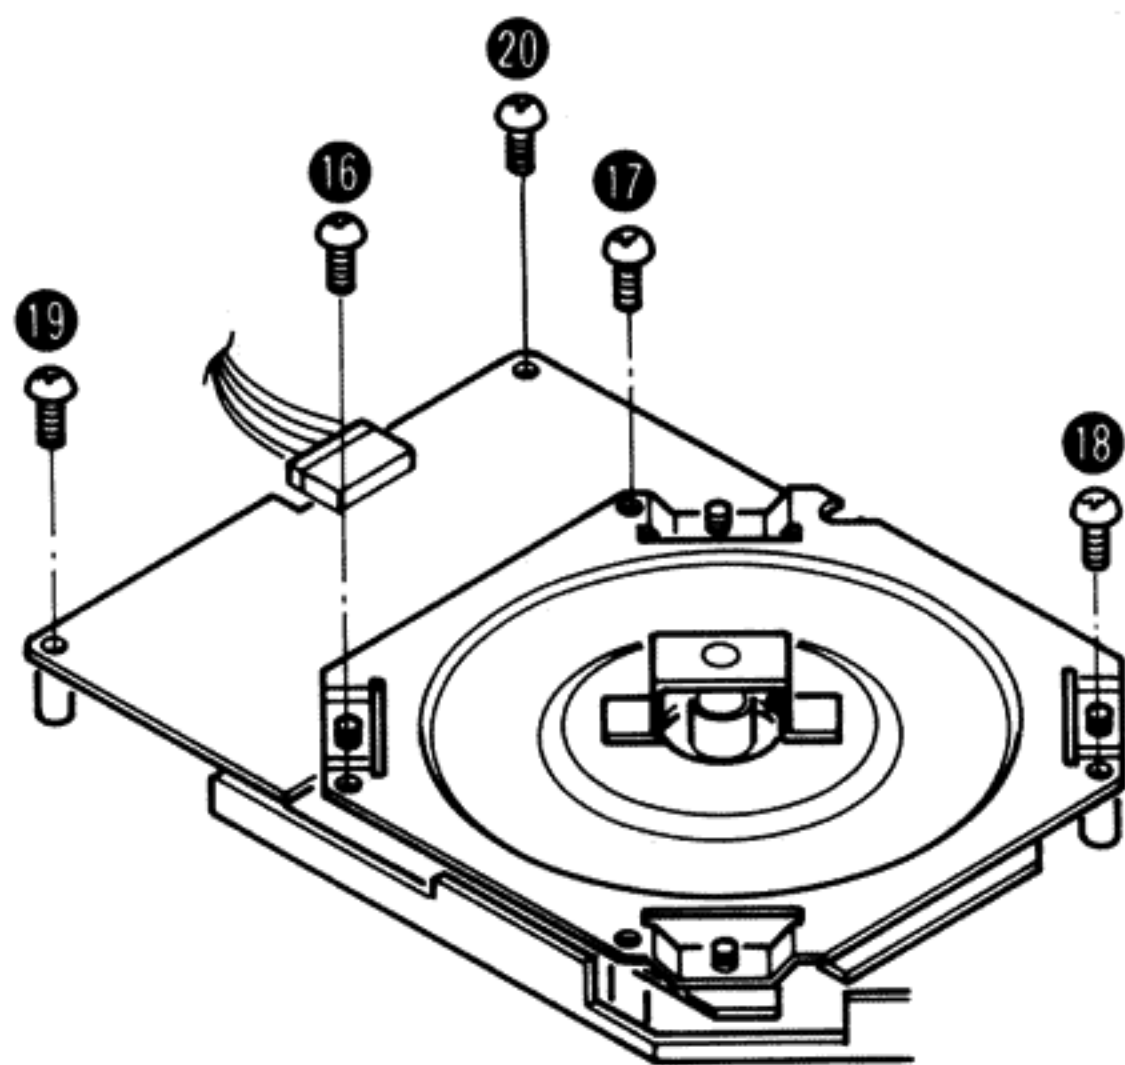

Fig. 8
2. Remove the 3 stator frame setscrews (Fig. 8: ⑯ ~ ⑰) and the 2 drive circuit board setscrews (Fig. 8: ⑱, ⑳).